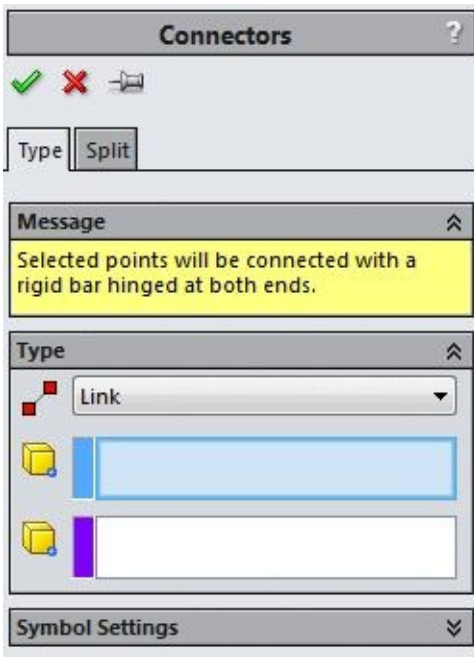

Figure-78. Connectors PropertyManager with Link option
- Click on the **Link** button from the **Connections Advisor** drop-down. The **Connectors PropertyManager** will be displayed as shown in Figure-78.